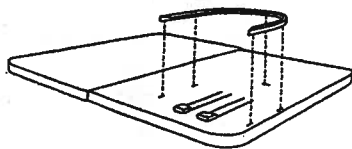

Fig 2. Removing the chamber retaining ring.
1. Remove the chamber retaining ring from the tray by releasing the five clips as shown in Fig 2.